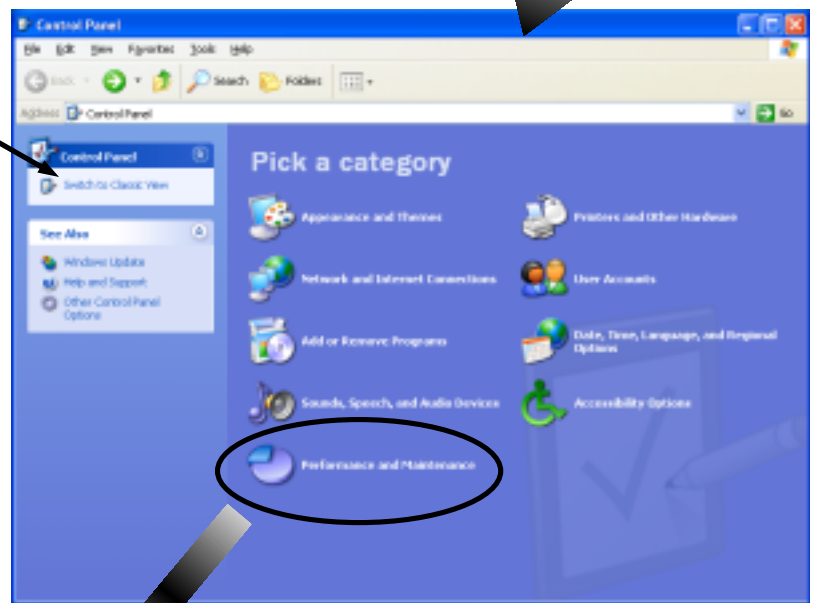

Figure 2
2. Click on **Performance and Maintenance** as shown in Figure 2.